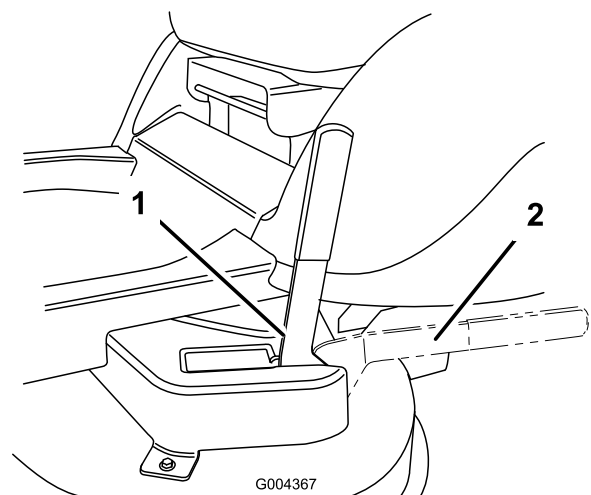

Figure 16
3. Move the recycle-on-demand lever (Figure 16) to the desired position: